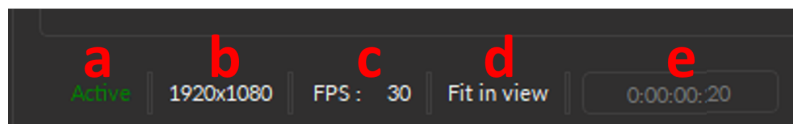

Figure 16.20: Live Monitoring bar
- a) The **Status** (Fig. 16.20, a) displays whether the camera is **Stopped**, **Active** or **Waiting for image**.
- b) The **Resolution** (Fig. 16.20, b) displays the current image size (in pixels x pixels).
- c) The **FSP** (Fig. 16.20, c) displays the current number of frames per second used to record the behavior video.
- d) The **Zoom** (Fig. 16.20, d) displays the current zoom value.
- e) The **Time** (Fig. 16.20, f) displays the amount of time since the camera was turned on in *d:hh:mm:ss*.